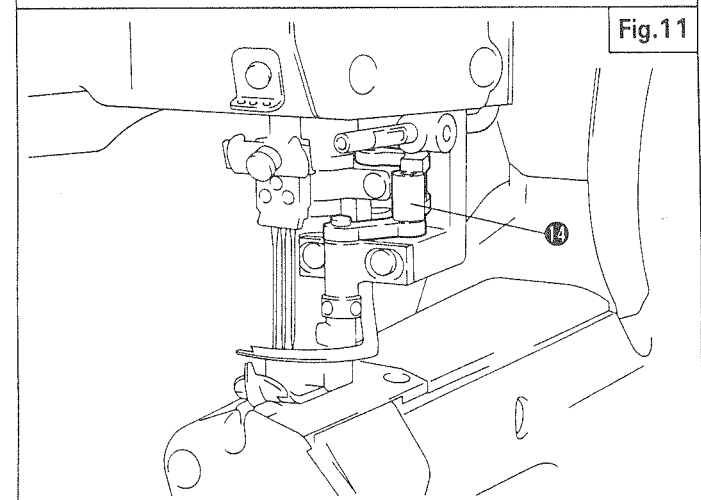

Fig.11
Refer to Fig.11 and apply hand oiling to each Link ⑭ of Spreader.